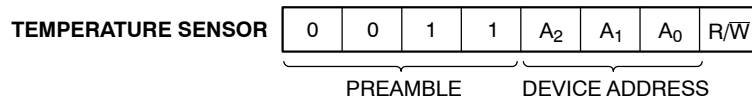

Figure 9. Slave Address Bits
The Master initiates data transfer by creating a START condition on the bus. The Master then broadcasts an 8-bit serial Slave address. The first 4 bits of the Slave address (the preamble) select the Temperature Sensor (TS preamble = 0011) as shown in Figure 9. The next 3 bits, A2, A1 and A0, select one of 8 possible TS Slave devices. The last bit, $R/\overline{W}$, specifies whether a Read (1) or Write (0) operation is being performed.